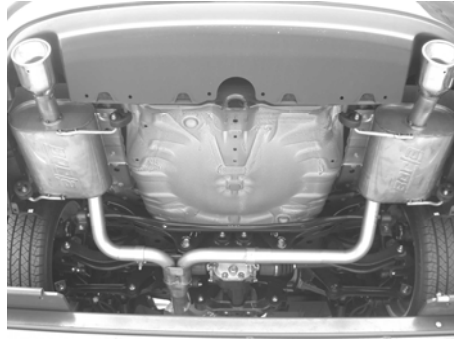

Figure 6
- Place a clamp over the expanded ends of left and right rear muffler assemblies and set them into position as shown in figure 6 installing the hangers into the rubber brackets. DO NOT tighten the clamps.